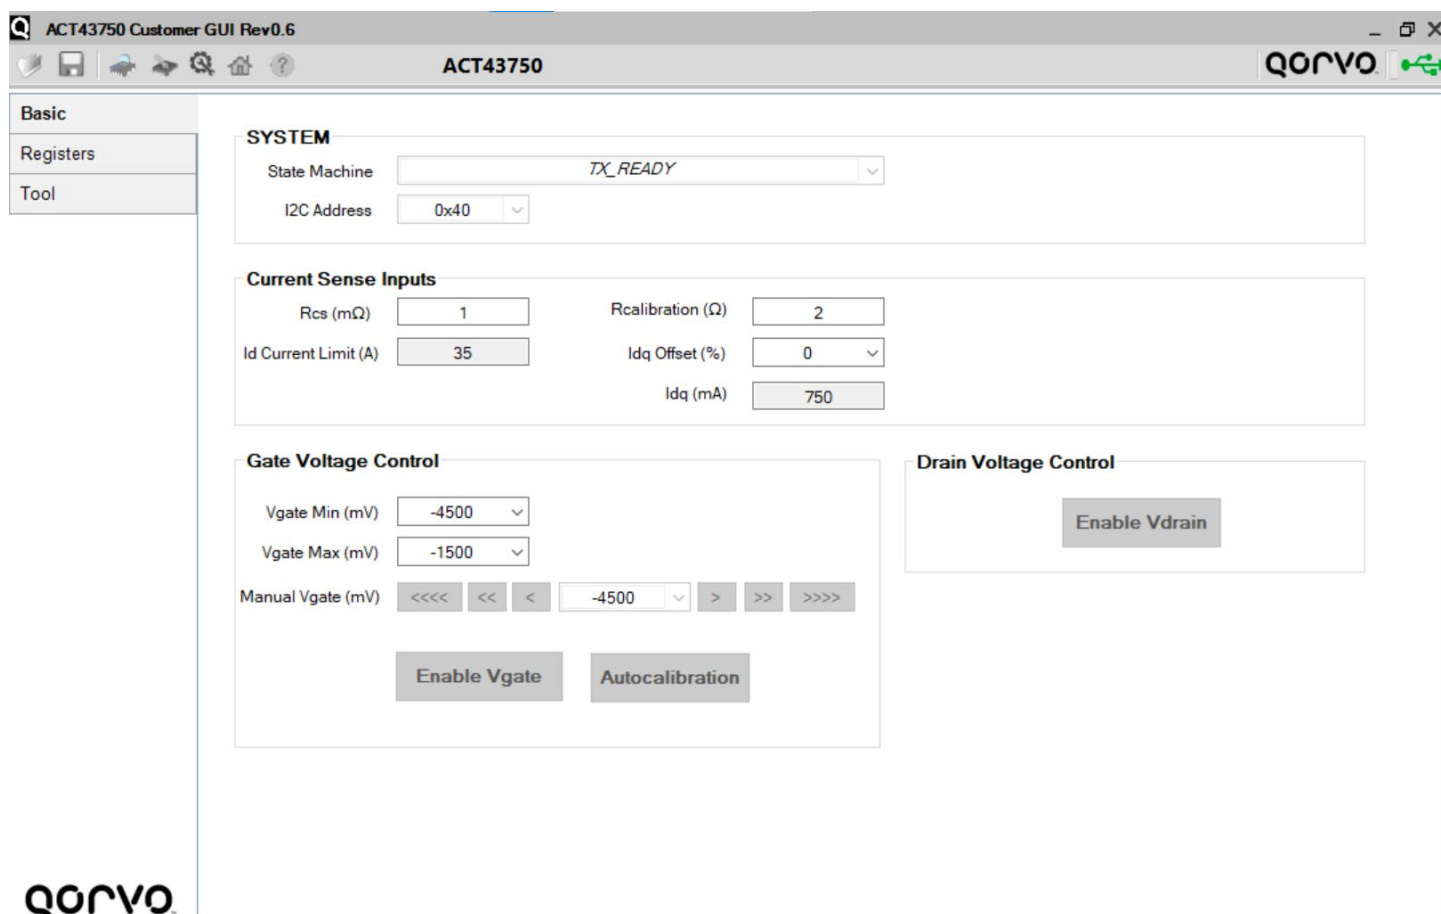

Figure 8. ACT43750EVK GUI interface
2. Same steps as ACT43750 standalone operation, see Figure 8 for details.